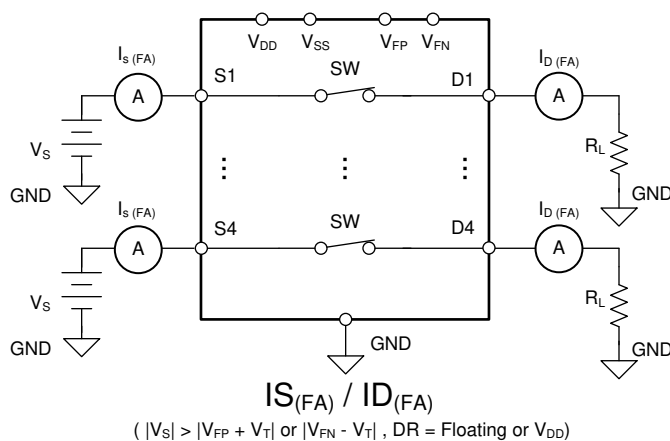
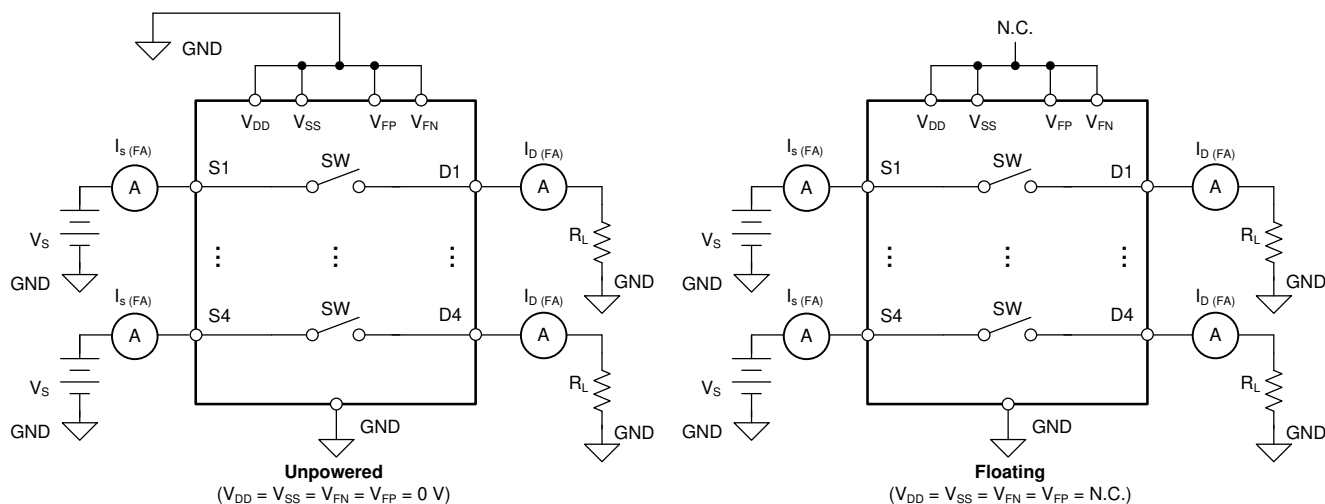

Figure 14-3. Measurement Setup for Input and Output Leakage Current Under Overvoltage Fault with Normal Supplies
Figure 14-4. Measurement Setup for Input and Output Leakage Current Under Overvoltage Fault with Unpowered or Floating Supplies
If any of the source pin voltage goes above the fault supplies (V_{FP} or V_{FN}) by one threshold voltage (V_T), the TMUX7462F's overvoltage protection feature is triggered to turn off the switch under fault, keeping the fault channel in the high-impedance state. $I_{S(FA)}$ and $I_{D(FA)}$ denotes the input and output leakage current under overvoltage fault conditions, respectively. The supply (or supplies) can either be in normal operating condition (Figure 14-3) or abnormal operating condition (Figure 14-4) when the overvoltage fault occurs. The supply (or supplies) can either be unpowered ($V_{DD} = V_{SS} = V_{FN} = V_{FP} = 0$ V), floating ($V_{DD} = V_{SS} = V_{FN} = V_{FP} = \text{No Connection}$), or at any level that is below the undervoltage (UV) threshold during abnormal operating conditions.